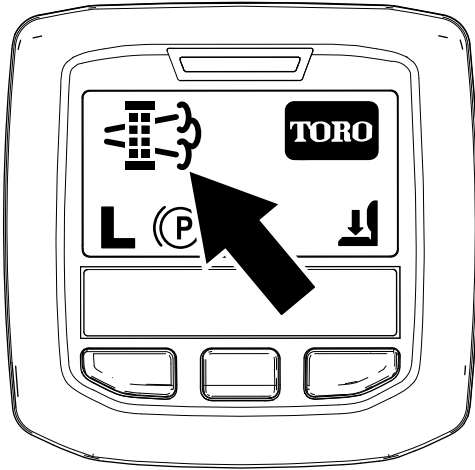

Figure 48
- When the engine computer requests either a parked regeneration or a recovery regeneration, the regeneration request icon (Figure 48) displays in the InfoCenter.